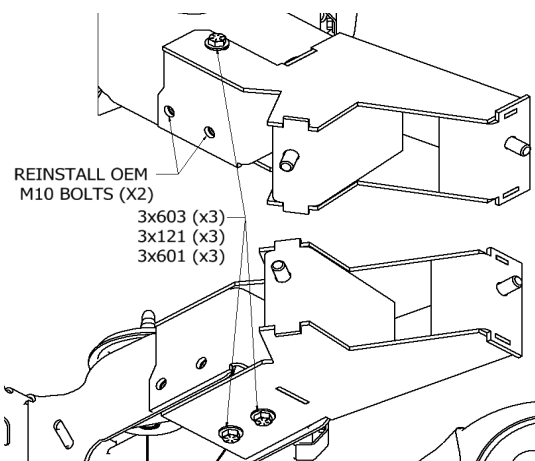

FIGURE 3
H. Using a 9/16" socket and wrench, use three supplied 3/8"- 16 bolts and whiz nuts to secure the bracket to the frame horn. The nuts will have to be installed inside the frame of the vehicle, there is access to the inside of this frame horn from the underside of the vehicle (Fig. 3).